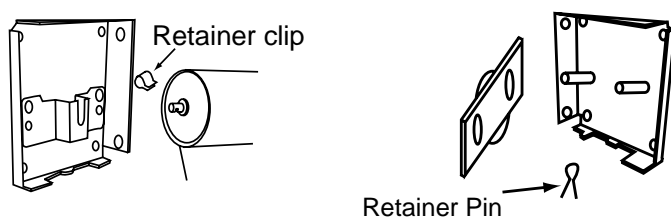

Figure 2
- ① Place operator (motor) end onto its bracket, then slide notched pin on idler end into slot on bracket. Attach retainer clips to idler end (see Fig. 2) (and also to motor end if using endcaps or headbox).